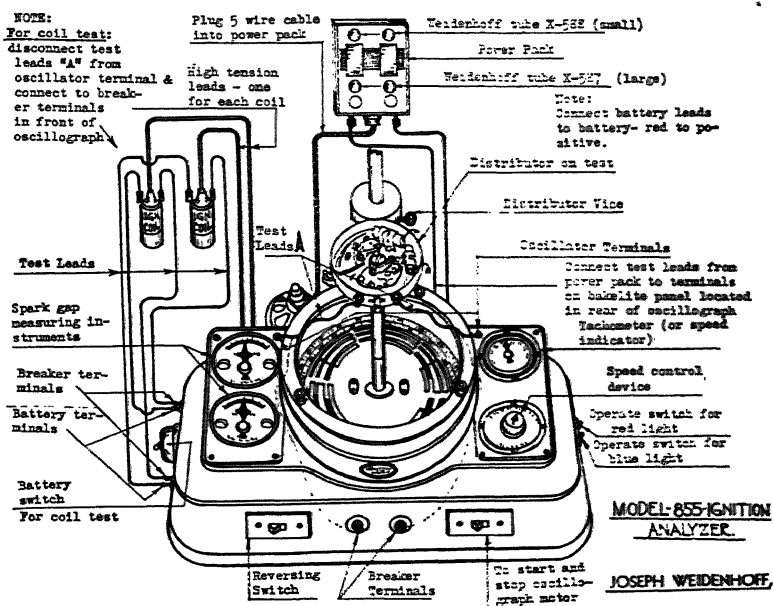

Fig. 38. Equipment for Oscillograph Distributor Test
**Operation of the Ignition Analyzer.** With the distributor properly mounted and connected and with both switches closed, the rotary indicator, on which are mounted the two neon tubes, revolves; the speed being governed by the regulator on the front of the base. Looking into the scale cup the operator sees a series of red and blue flame flashes in the path swept by the tubes, caused by making and breaking the circuit in the distributor by the breaker points. The end of these flashes in the direction of rotation represents the points at which the cylinders fire, in other words, where the points open. The arcs of light (cam angle) show the time intervals during which the breaker points are closed. On the right side of the oscillograph unit, Fig. 38, there are two switches, one of which lights the red light in the disc when the points are closed, while the other controls the blue light. Adjust the distributor on test to the cam angle specified by the distributor maker. Theoretically, the flame flashes of
**Testing a Distributor in Conjunction with a Coil.** If there are any poorly riveted contact points in a distributor or any other high-resistance connections, the cam angle can still be set perfectly with the oscillograph unit and if the distributor has double breakers, they can be synchronized properly but the distributor will not pass sufficient current to the coil or coils as the case may be. Because of this, an entirely new test for distributors has been incorporated in the analyzer. To make this test, reconnect the condenser leads in the distributor and disconnect the test leads from the oscillator terminals marked "A," Fig. 38. Connect the test leads to the breaker terminals located in the front of the oscillograph and insert the high-tension leads into the center of the two laboratory-test coils furnished. Connect the two test leads from the breaker terminals on the oscillograph to the primary terminals of each coil. Then connect the test leads from the battery terminals to the primary terminal of each coil.